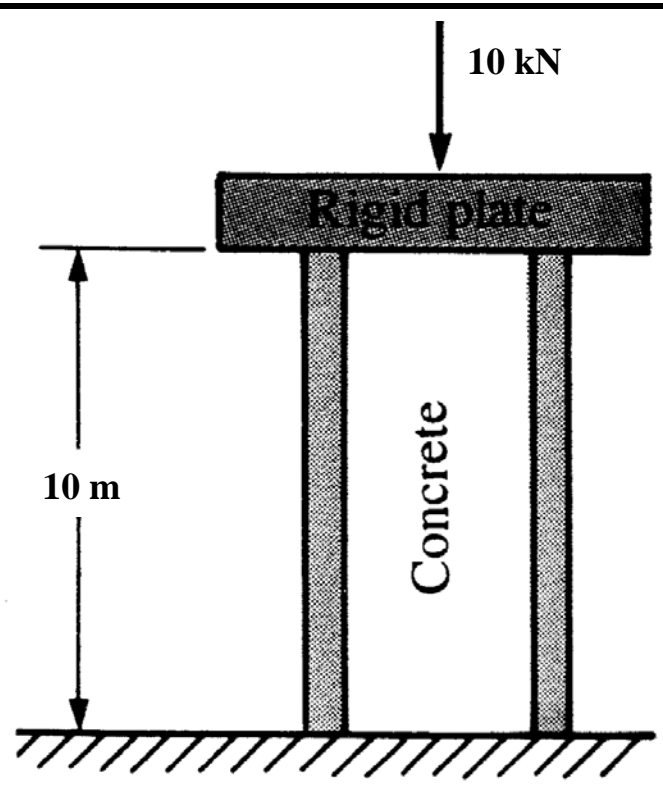

Fig. P4
- 4) A large steel pipe ($E = 210$ GPa, outer $D = 4.5$ m, inner $D = 4.026$ m) filled with concrete ($E = 21$ GPa) is loaded as shown in Fig. P4. Determine the normal stress in the steel and in the concrete when the 10-kN force acts along the geometric axis of the pipe. Neglect the weights of the concrete and the steel. [Secs. 4.4 & 4.5] (20 pts.)